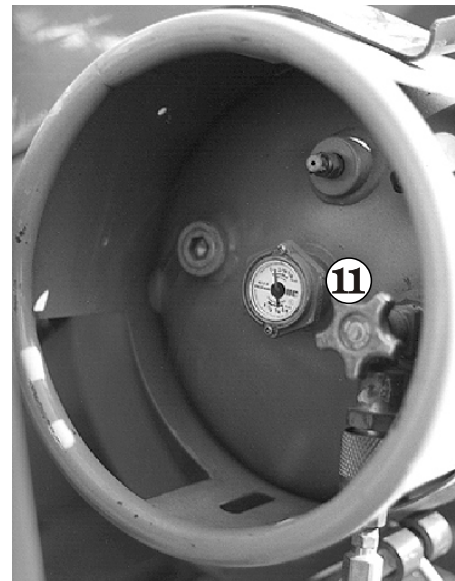

Figure 10.4
Close the valve ①① (see Figure 10.4) on the LPG-tank (completely screwed in).